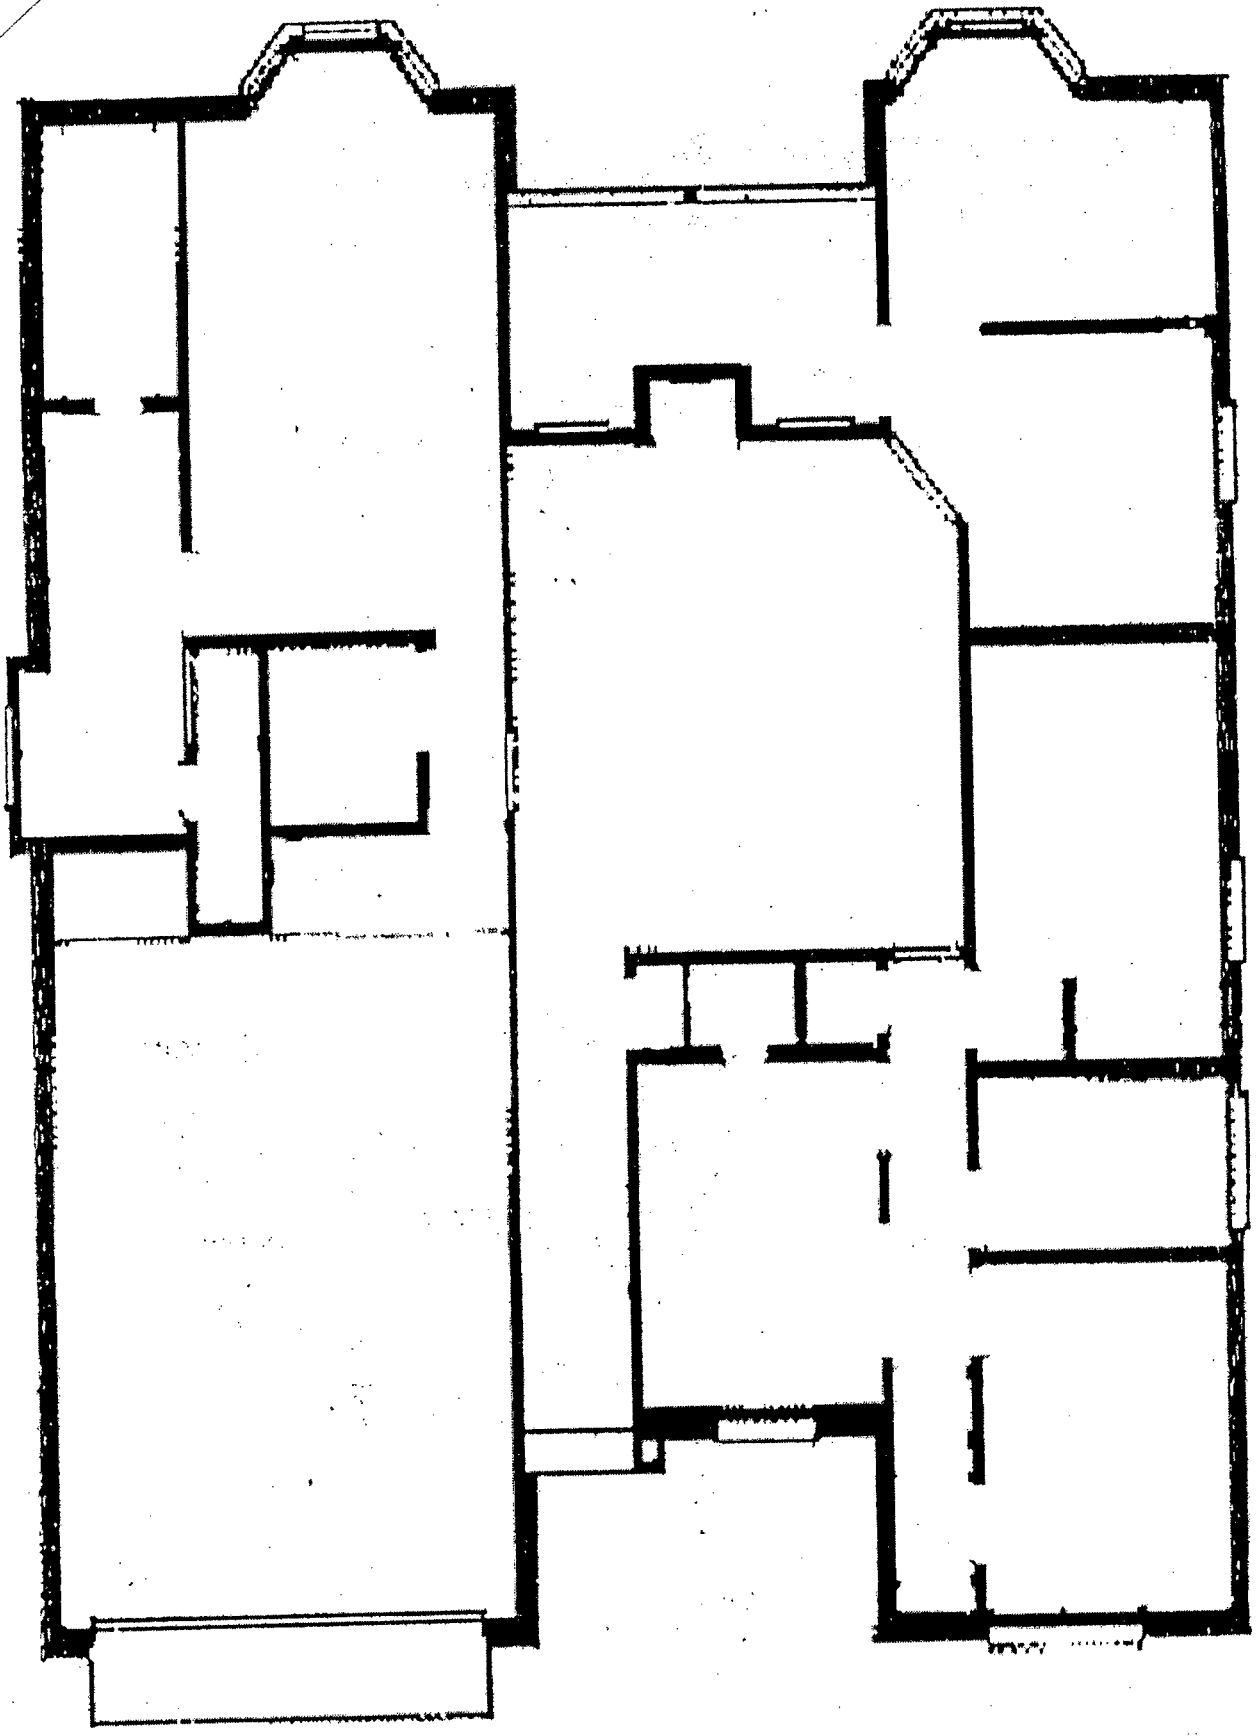

Fig. 4(b) fv Q. No. 4
4. The same plan of a house are shown in Fig. 4(a) and Fig. 4(b),
- (a) Show the "Fittings and Fixture Layout Design" in Fig. 4(b) and attach this sheet with your answer script. (14 1/3)